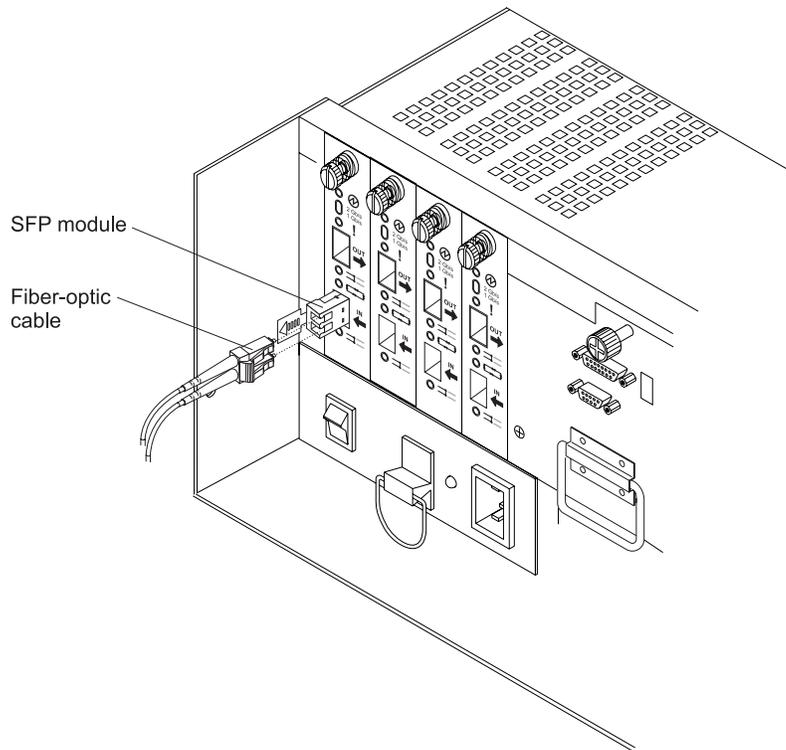

Figure 35. Installing an SFP module into the host port
4. Insert the SFP module into the host port until it clicks into place. See Figure 35 on page 53.